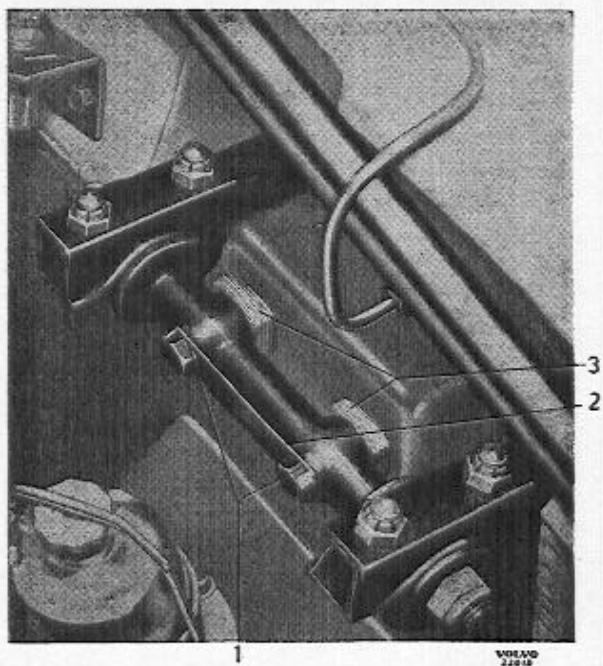
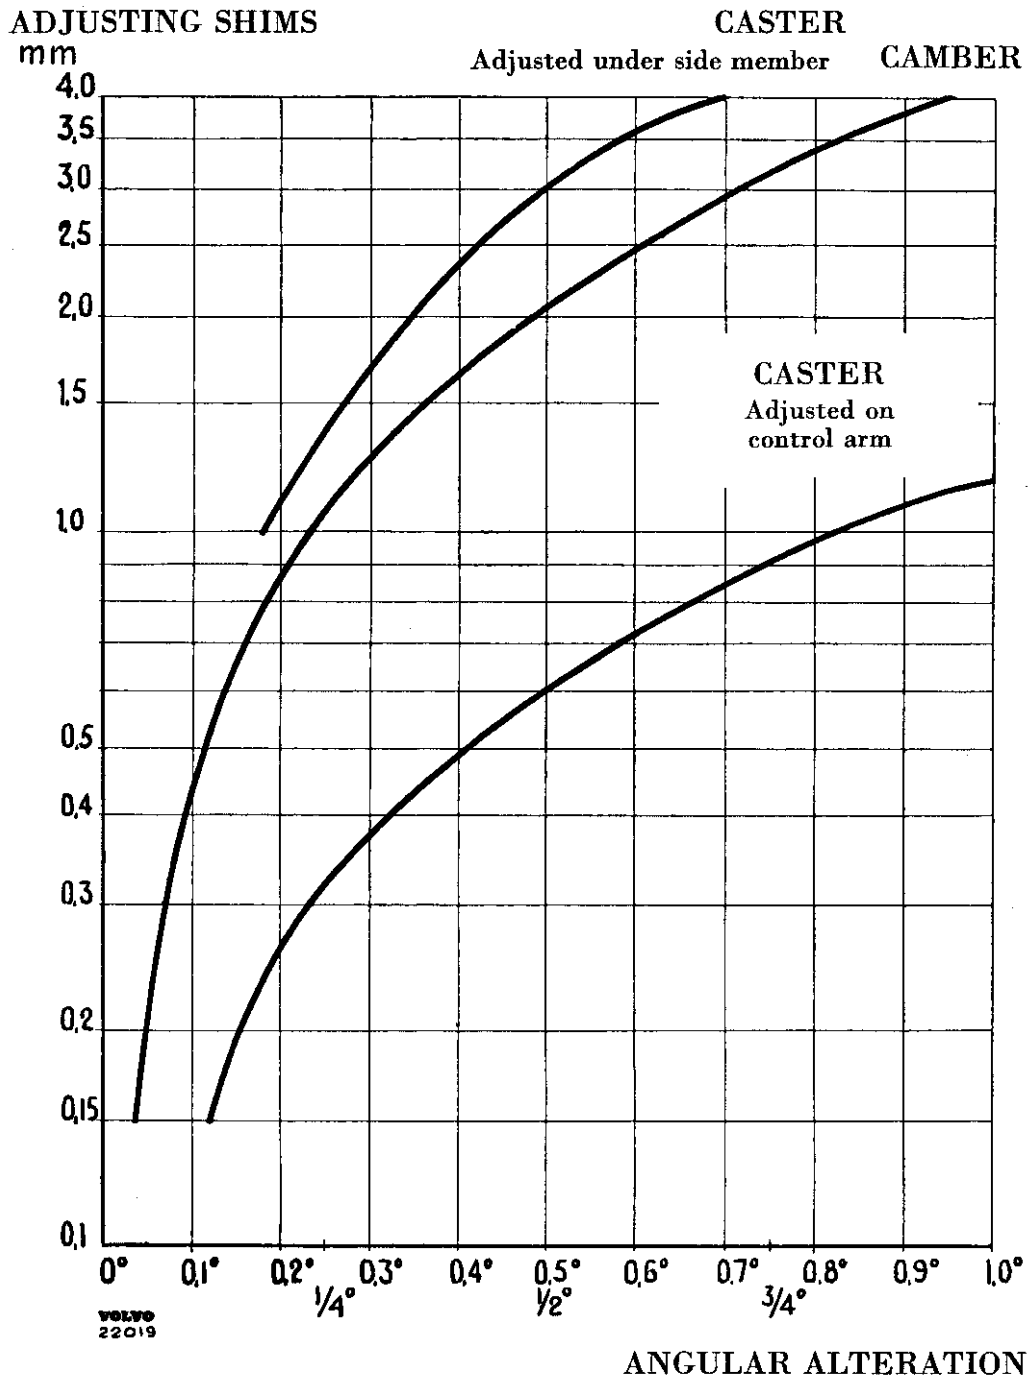

Fig. 42. Adjusting caster and camber.
Fig. 43. Diagram for alteration of caster and camber.
Shims for adjusting the caster at the front axle member — side member are available in thicknesses of 2 and 3 mm (0.079 and 0.118"). The extent to which caster is altered by these shims is shown in the diagram, Fig. 43.
When the caster is different on the right and left sides, adjustment is done at the upper control arm shaft, see Fig. 42. Slacken the attaching bolts (1) so that the adjusting shims can be lifted up. These are stocked in thicknesses of 0.15; 0.5; 1; 3 and 6 mm (0.006; 0.012; 0.039; 0.118 and 0.236"). The extent to which these alter the caster is shown in the diagram, Fig. 43. The same alteration is obtained if a shim is removed from one of the attaching bolts or if it is added to the other. In both cases the camber is altered slightly and the procedure will therefore partly depend on how much it is required to alter this. When the camber is correct, caster is adjusted by removing shims. Always tighten the attaching bolts to a torque of 4.8—5.5 kgm (35—40 lb.ft.) before making a new measurement. When the correct caster has been obtained, the attaching bolts are locked with the locking plate (2).
The camber should be 0 to $+1/2^\circ$ and is adjusted by means of shims (3, Fig. 42) at the upper control arm shaft. When doing this, the attaching bolts (1) are slackened slightly. The number of shims is increased or reduced depending on the angular fault. After adjusting, the attaching bolts are tightened to a torque of
4.8—5.5 kgm (35—40 lb.ft.) and the camber checked. Adjusting shims are stocked in the following thicknesses: 0.15; 0.5; 1; 3 and 6 mm (0.006; 0.012; 0.039; 0.118 and 0.236"). The extent to which the shims alter the angle can be seen from the diagram, Fig. 43.